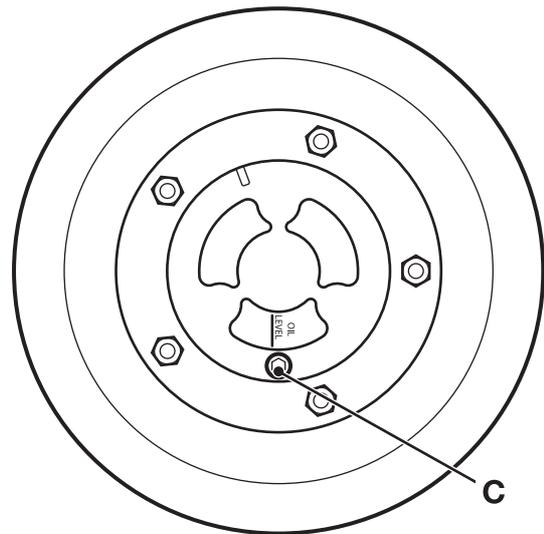

Fig 69.
- 1 Park the machine on level ground so that the 'OIL LEVEL' mark on one hub is at the bottom. ⇒ Fig 69. \(□ 3-73\). Engage the parking brake. Set the transmission to neutral. Lower the attachments to the ground. Stop the engine and remove the starter key.